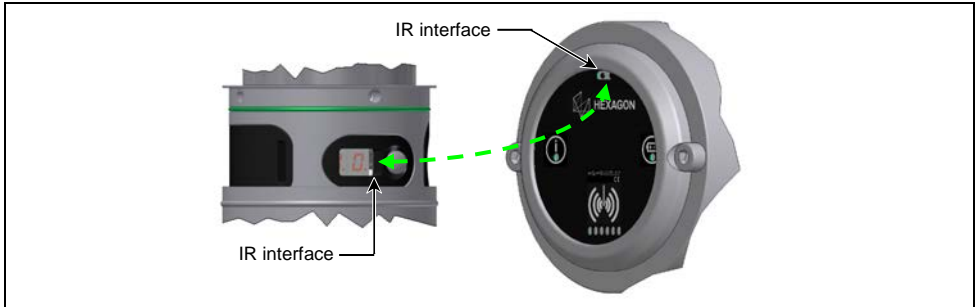

Fig. 17 **Pairing**
- ▶ If the button is not pressed again, after approx. 3 s the display shows two alternately flashing squares. The touch probe is now in Pairing mode for **pairing via the integrated IrDA interface** and can be paired with a receiver. To do this, hold the IR interface of the touch probe directly in front of the IR interface on the receiver (refer to Fig. 17). The recipient must be in "Standby" operation, i.e., the power supply to the receiver must be present, but no activation signal from the control and no "Ready" signal from a previously paired touch probe must be transmitted to the receiver. After successful pairing, both LEDs briefly illuminate green on the receiver and the display on the touch probe now shows two squares blinking simultaneously for approx. 5 s.